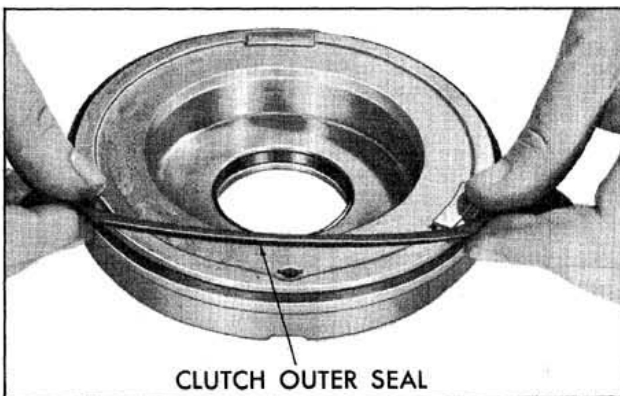

Fig. 6-162 Installing Piston Outer Seal
2. Install a new outer clutch piston seal. (Fig. 6-162)